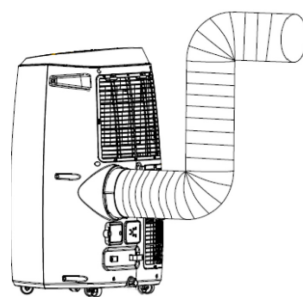

Fig. 6
- As shown in Fig. 6, connect the drain hose well (only applicable for using a heating model).